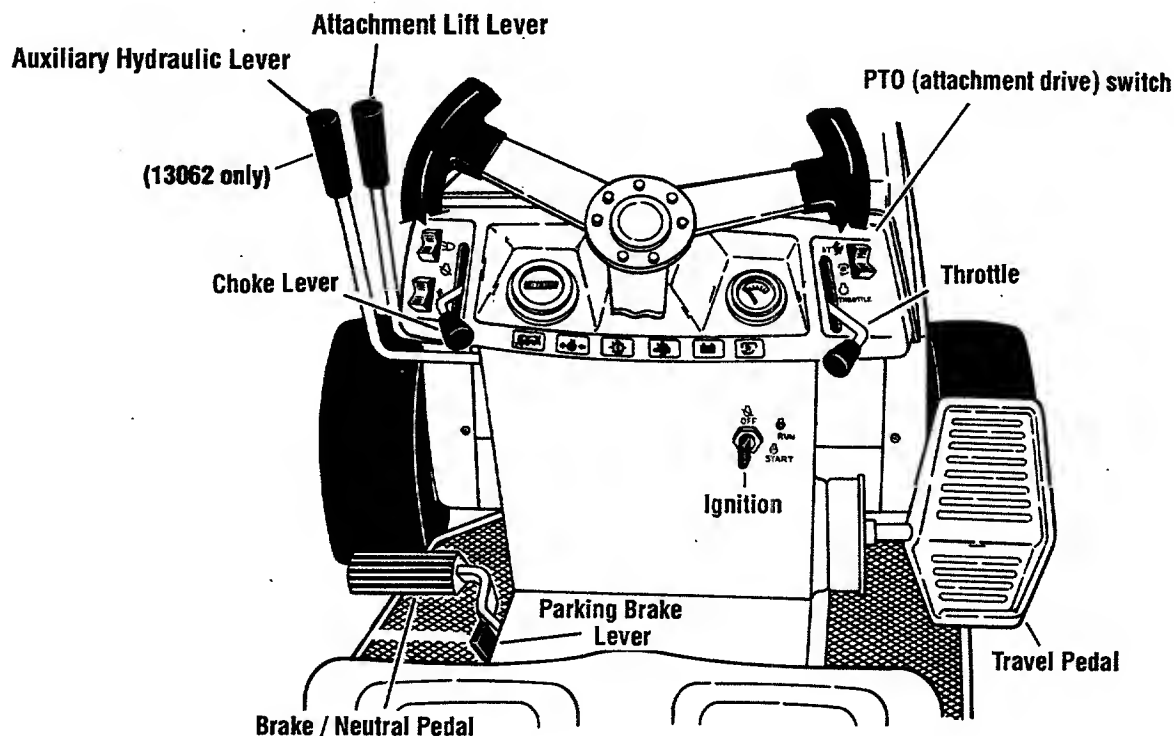

Fig. 6-1
1. Move attachment/PTO drive switch (Fig. 6-1) to "OFF". Starter will not activate unless switch is "OFF".
1. Move throttle (Fig. 6-1) down to "SLOW". Lock brake/neutral pedal down.
To engage attachment/PTO drive, turn attachment/PTO drive switch (Fig. 6-1) to "ON".
Pull hydraulic lift lever (Fig. 6-1) back to lift attachment. Push lever forward to lower attachment. When lever is released, it will return to neutral, except when pushed fully forward to "FLOAT" position.
**Warning light (GTX 20):** The "Oil Temperature" light activates when hydraulic fluid in transmission is overheated. If light is activated, disengage attachment/PTO drive switch (Fig. 6-1) and shut off tractor engine. Allow transmission to cool down. Make sure cooling fins are clear of debris.
**2-Speed models (GTX 20):** Change speeds with transmission lever (Fig. 6-1). Tractor must be completely stopped when shifting.
Controls forward and rearward movement. Press travel pedal (Fig. 6-1) at top (with toe) to move forward. Press pedal at bottom (with heel) to move in reverse.
Press brake/neutral pedal (Fig. 6-1) to apply brake and when starting engine. To lock brake (when parked), press pedal and lift parking brake lever to lock pedal down.
**To set:** When tractor is moving at desired speed, press "RESET" to activate speed control (Fig. 6-1). This sets travel pedal.